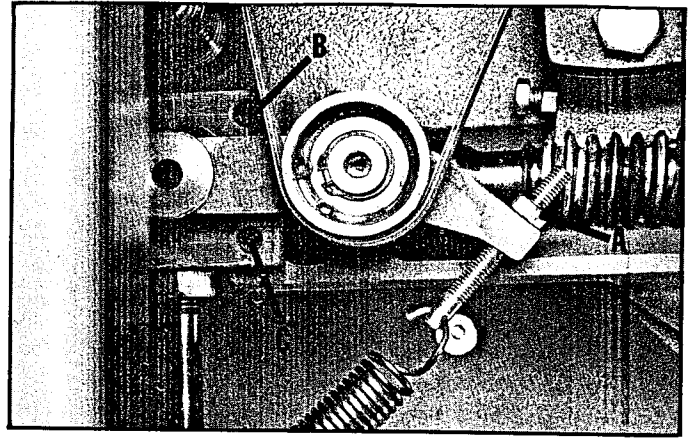
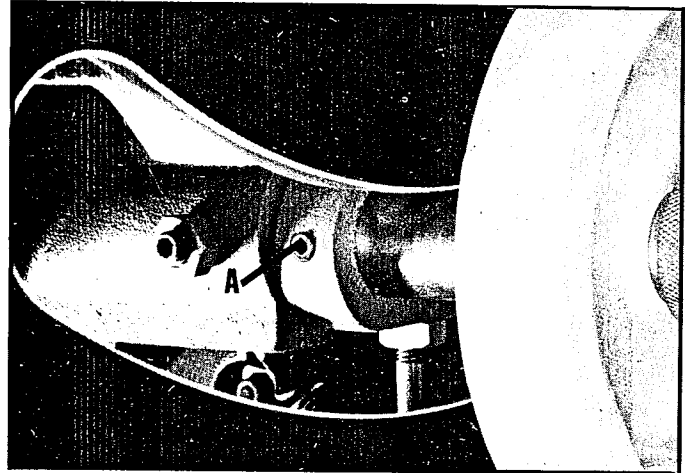

Fig. 57
Fig. 58
To increase or decrease tension on the scoring drive belt, tighten or loosen nut (A) Fig. 57.
1. The scoring belts should track in the center of the four pulleys. If adjustment is necessary, loosen set screw (A) Fig. 58.
2. Tracking adjustments can be made (refer to Fig. 57), by loosening set screw (B) and tightening set screw (C); or loosening set screw (C) and tightening set screw (B). Once proper belt tracking is obtained, retighten set screw (A) Fig. 58.